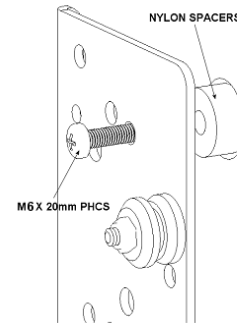
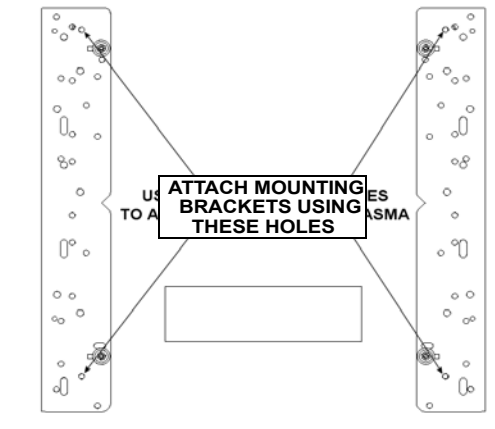

Figure 36. Spacer Installation for Group 13
Figure 37. Spacer Location for Group 13
3. Place the four Nylon spacers over the mounting holes on your Large Flat Panel display (see Figure 36).
4. Place the interface brackets over the Nylon spacers (see Figure 36 and Figure 37).
6. Using the hardware in parts bag F, secure the interface brackets to your Large Flat Panel display (see Figure 36 and Figure 37). Do not overtighten the mounting screws.